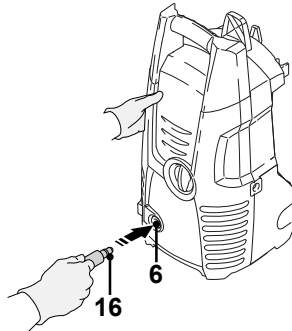

Fig. 6
1. Connect the high pressure hose (16) to the water outlet (6) (Fig. 6).